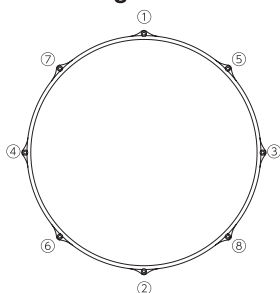

Fig. 1-1E
* When securing the drumhead to the shell, do not tighten in one place. Instead, first lightly tighten each bolt with your fingers, then, using a tuning key, evenly tighten the head in the diagonal order as shown in Fig. 1-1E.